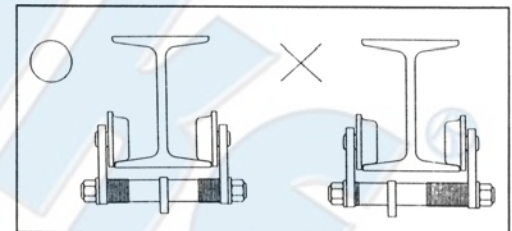

FIGURE 4
3. Make sure the Hook Receiving right in the center of the two side plate.(FIGURE 4)